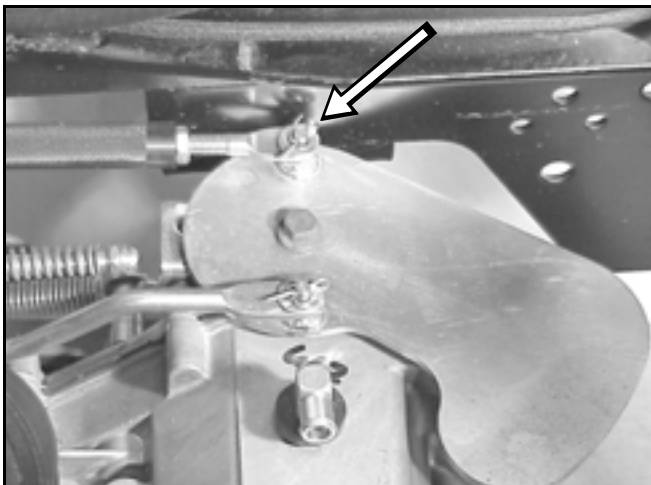

Figure 129
14. Slowly lower the transaxle slightly and STOP. You will need to disconnect the hydro rod from the cruise control plate. Remove the cotter pin and washer (Figure 129).
1. Raise the transaxle up toward the frame allowing enough room to install the hydro rod to the cruise plate and secure with a cotter pin and washer (Figure 129).